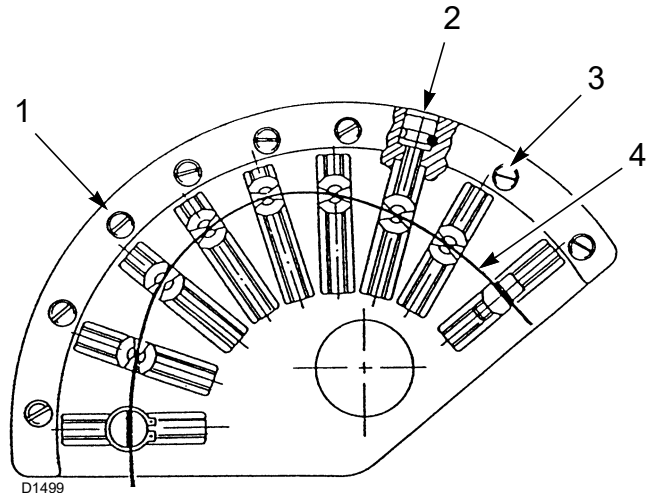

Fig. 29
- Proceed with calibrating the air output by adjusting the variable profile cam, using the screws 2)(Fig. 29)(cam 1 Fig. 31).
- With the optimal adjustment achieved, remember to lock the adjustment screws of the cam profiles by means of screws 3)(Fig. 29).
For better adjustment repeatability, take care to stop the rotation of the cam unit when the upper bearing that slides on the profile 4)(Fig. 29) is aligned with one of the adjustment screws 2)(Fig. 29).
Screw in or unscrew the pre-set screw 2)(Fig. 29) to increase or decrease the air output so that it comes into line with the corresponding light oil output.
After the output adjustments (maximum, minimum and intermediate), it is important to lock all the air adjustment screws 2)(Fig. 29) using the locking screws 3)(Fig. 29) so as to avoid possible movements from the of air - light oil calibration positions.
Key (Fig. 29)
For example, calibrate the minimum output to 800 kW, check the emissions and if necessary increase or decrease the opening of the air damper (“Proceed with the calibration (gas)” on page 32). Bring the output to 800 kW using the screws 2) of the mechanical cam (Fig. 29 on page 30) and check the emissions.